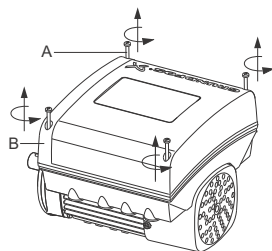

Fig. 71 Removing the terminal box cover
1. Loosen the four screws (fig. 71, A) and remove the terminal box cover (fig. 71, B).
11. Fit the terminal box cover (fig. 71, B) and cross-tighten the four mounting screws (fig. 71, A) to 6 Nm.